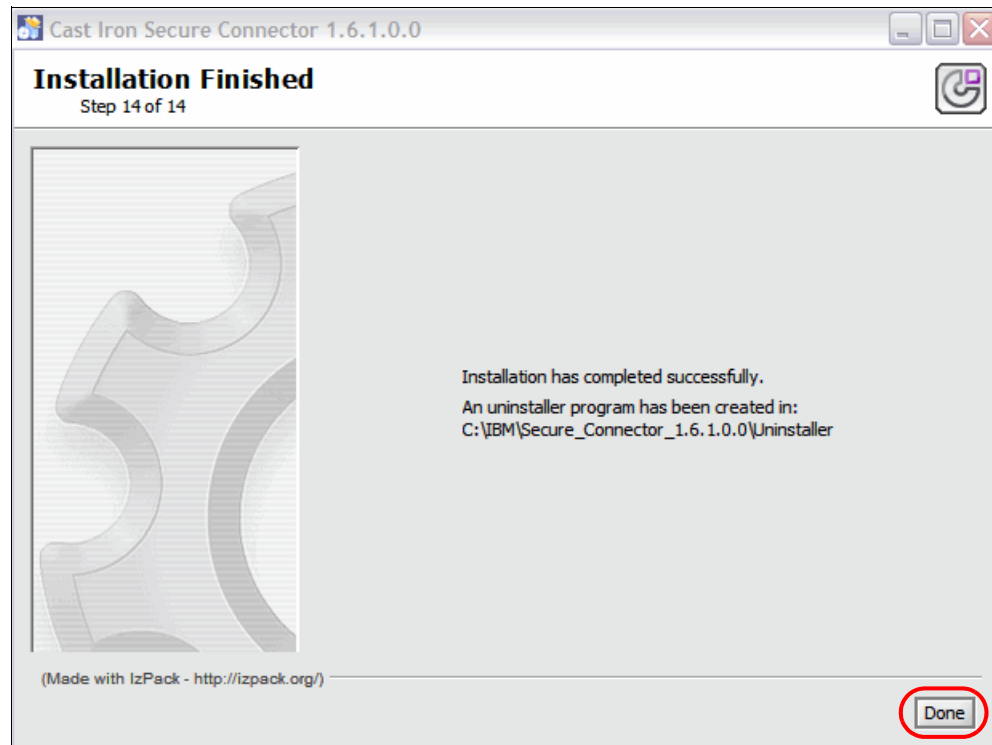

Figure 2-45 Cast Iron Secure Connector installation finished
14. The Installation Finished panel displays, Figure 2-45, indicating that the installation finished successfully and that an uninstaller was created. Click **Done** to close the installation wizard.